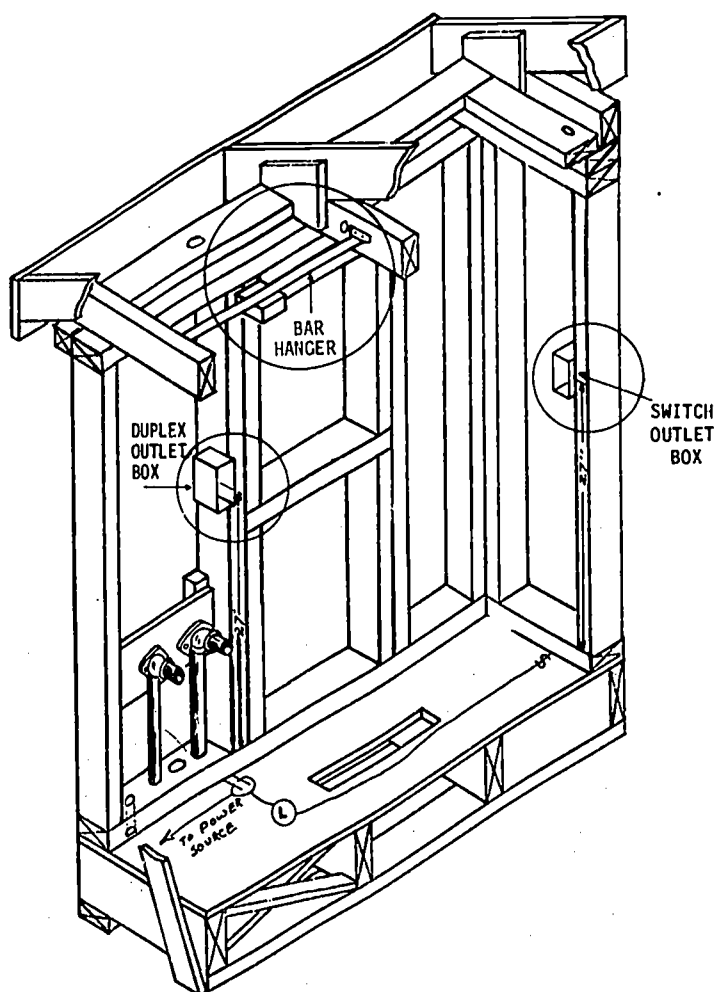

Fig. 52-5. Placing Bar Hanger and Outlet Boxes
2. Find where the switch outlet box will go by measuring up 27" from the top of the sole plate. See Fig. 52-5. Mark this point.
5. Locate the boxes on the studs as shown in Figs. 52-5 and 52-8. Note: Locate each box so that it projects (sticks out) past the face of the stud. *Your teacher will tell you how far the boxes should project.* This will depend on how thick the wall material will be.
8. Secure the bar hanger to two ceiling joists as shown in Figs. 52-5, 52-7, and 52-11. Note: Install the octagon box so that it projects below the face of the ceil-